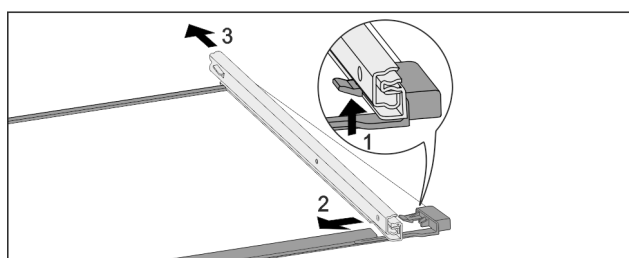

Fig. 142 Glass shelf with rails
- ▶ Push up front click-in hooks. *Fig. 142 (1)*
- ▶ Move the pull-out rails to the side *Fig. 142 (2)* and to the rear *Fig. 142 (3)*.